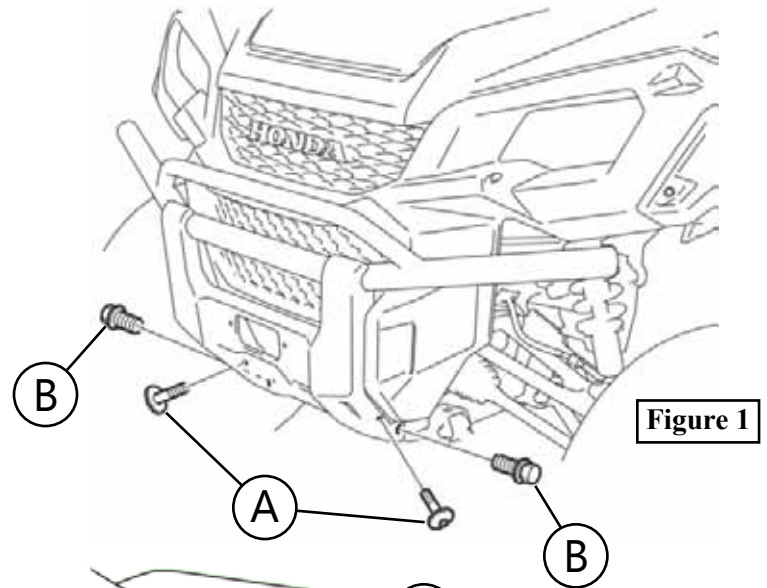
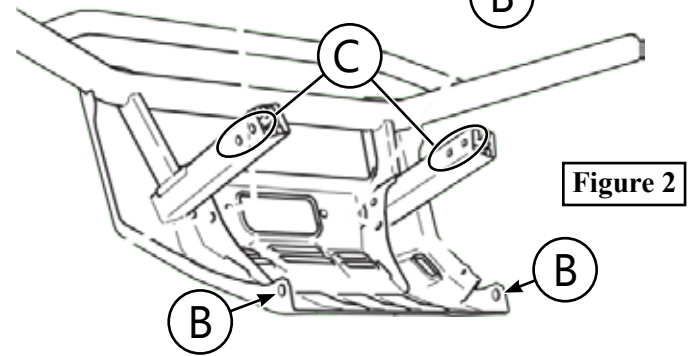

Figure 1
Figure 2
1. Remove the two cap screws (A) holding the plastic to the bumper and the two bottom bolts (B) as shown in **Figure 1 & 2**. Remove bolts (C) holding the bumper tube supports to the frame as shown in **Figure 2** and remove bumper.